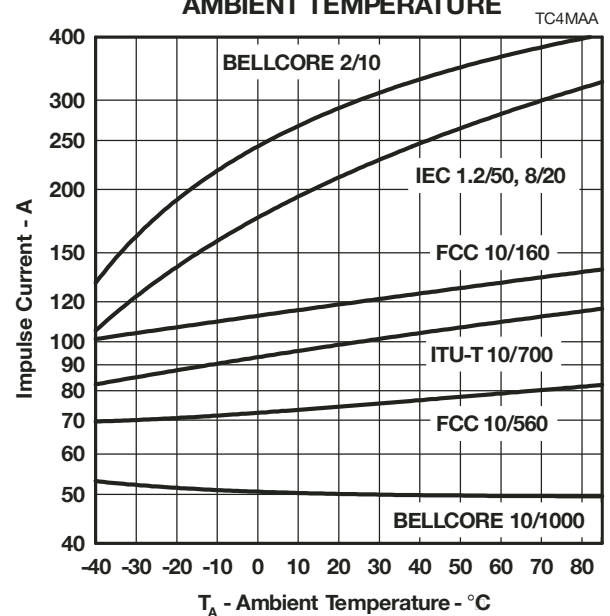

Figure 11.
4. See Applications Information and Figure 11 for current ratings at other temperatures.
For the FCC Part 68 10/560 waveform, the following values result. The minimum total circuit impedance is $800/75 = 10.7 \Omega$ and the generator's fictive impedance is $800/100 = 8 \Omega$. This gives a minimum series resistance value of $10.7 - 8 = 2.7 \Omega$. After allowing for tolerance, a $3 \Omega \pm 10\%$ resistor would be suitable. The 10/160 waveform needs a standard resistor value of 5.6Ω per conductor. These would be R1a and R1b in Figure 15 and Figure 16. FCC Part 68 allows the equipment to be non-operational after the 10/160 (conductor to ground) and 10/560 (inter-conductor) impulses. The series resistor value may be reduced to zero to pass FCC Part 68 in a non-operational mode, e.g. Figure 14. For this type of design, the series fuse must open before the TISP4xxxM3 fails. For Figure 14, the maximum fuse i^2t is $2.3 A^2s$. In some cases, the equipment will require verification over a temperature range. By using the rated waveform values from Figure 11, the appropriate series resistor value can be calculated for ambient temperatures in the range of $-40^\circ C$ to $85^\circ C$.